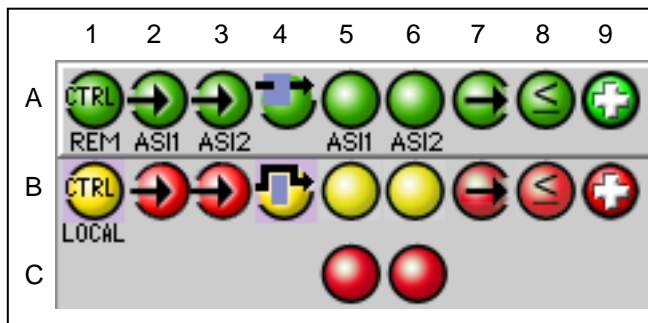

Figure 3.3 Status icons
1. The Status Icon area shows a series of nine icons that report the status of some card parameters. Figure 3.3 shows the various forms that may appear; their meaning is described below.